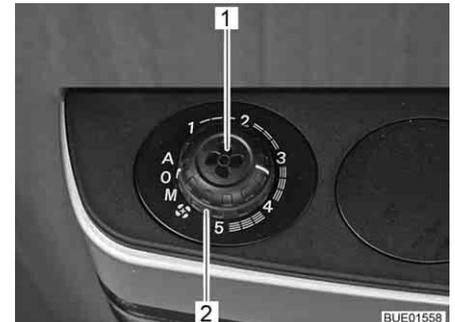

Fig. 136 Knob and rotary switch for fan control
- Set the rotary switch (Fig. 136,2) to the required operating mode.
- Turn the rotary switch (Fig. 136,2) to "0".